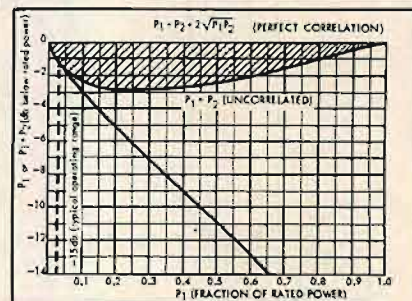

Fig. 2. Power distribution in dual-channel amplifier.
(B) of Fig. 2 shows the low-frequency equivalent mechanical circuit of the complete vented enclosure system. The approximate resonant frequencies of the system are:
This relationship is plotted in Fig. 2 where the lower curve is P_2 and the horizontal axis is P_1 . The middle curve shows the time average sum of the powers or the total output power of the amplifier. The powers may be added directly only when the assumption is made that the frequencies are different. When there is any correlation between the signals in the two channels, a cross-product term appears in the total power; and in the case of perfect correlation (e.g. sinusoids of identical frequency and phase), the total power is P_{max} regardless of the distribution between channels. Thus, depending on the correlation and the distribution, the total available power lies somewhere within the shaded area. (Incidentally, the same is true of any single-channel amplifier. If two equal sinusoids of different frequencies are put into an amplifier, the maximum power at the output will only